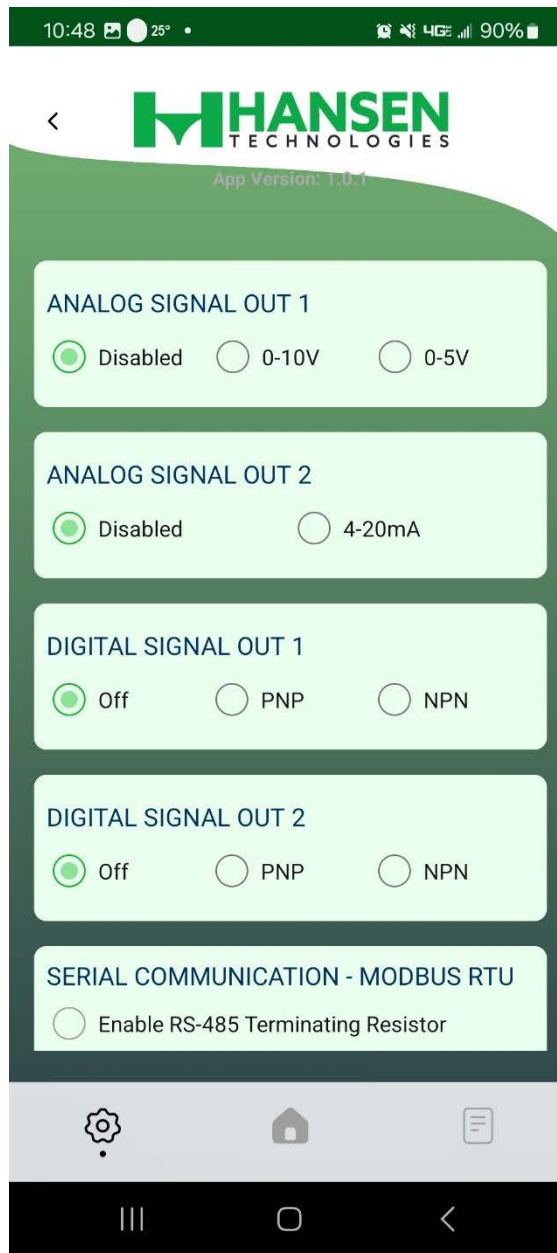

Figure 27
4. Go to "Output Configuration" and ensure all outputs are turned "Off" if communicating via RS-485. If not select appropriate settings for your configuration. As shown in figure 27